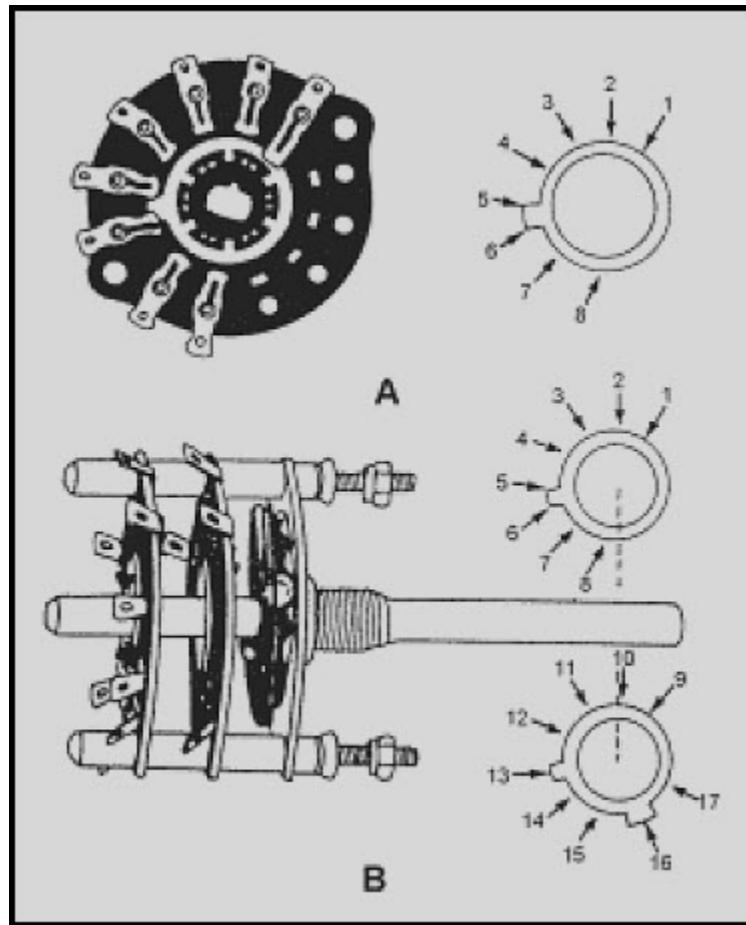

Figure 3-9 Wafer switch
Figure 3-9(A) shows one wafer of a wafer switch and its schematic symbol. Contact 1 is the point at which current enters the wafer. It is always connected to the movable portion of the wafer. With the wafer in the position shown, contact 1 is connected to both contact 5 and 6 through the movable portion. If the movable portion was rotated slightly clockwise, contact 1 would only be connected to contact 5. This arrangement is known as **MAKE BEFORE BREAK** because the switch makes a contact before breaking the old contact.
Figure 3-9(B) is an illustration of the entire switch and its schematic symbol. Since the switch has two wafers mechanically connected by the shaft of the switch, the shaft rotates the movable portion of both wafers at the same time. This is represented on the schematic symbol by the dotted line connecting the two wafers.
The upper wafer of the schematic symbol is the wafer closest to the control mechanism, and is identical to the wafer shown in figure 3-9(A). When switches have more than one wafer, the first wafer shown is always the wafer closest to the operating mechanism. The lower wafer on the schematic diagram is the wafer farthest away from the operating mechanism. Contact 9 of this wafer is connected to the movable portion and is the point at which current enters the wafer. In the position shown, contact 9 is connected to both contact 13 and 16. If the switch is rotated slightly clockwise, contact 9 would no longer be connected to contact 13. A further clockwise movement would connect contact 9 to contact 12. This arrangement is called BREAK BEFORE MAKE. Contact 9 will also be connected to contact 15 at the same time as it is connected to contact 12.